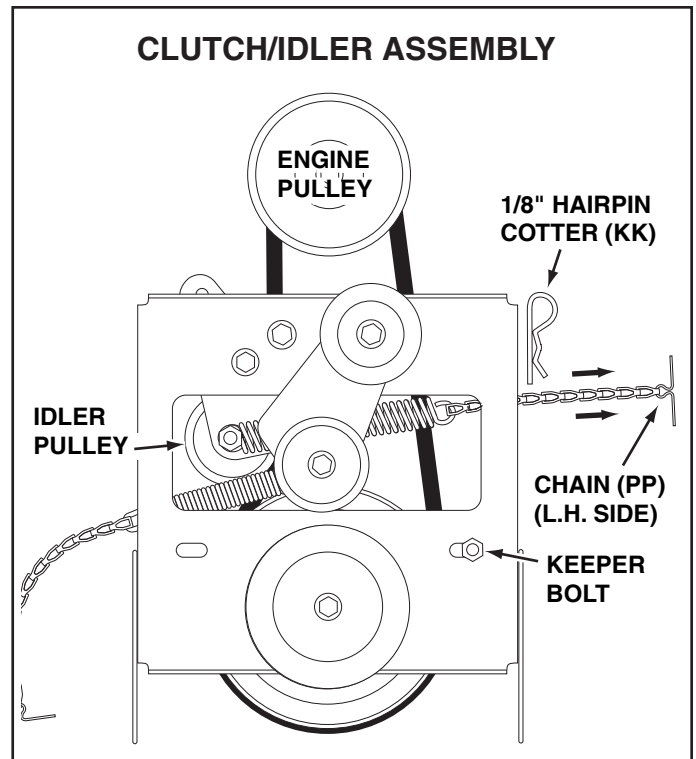

FIGURE 19 VIEWED FROM UNDERNEATH
STEP 20: (SEE FIGURE 19)
- Place tension on the belt by pulling the left side tensioning chain (PP) out as far as the 3/32" hairpin cotter in the chain will allow. Secure the chain in this position by inserting a 1/8" hairpin cotter (KK) through the chain.